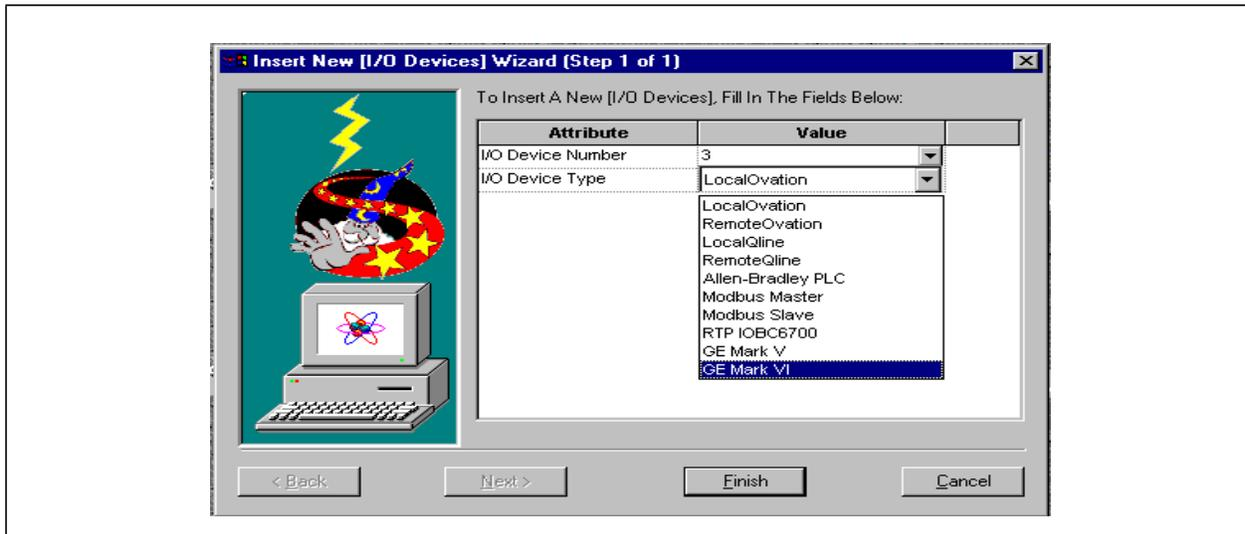

Figure 3-8. Insert New I/O Devices Wizard
15. The Insert New I/O Devices Wizard appears (see Figure 3-8).